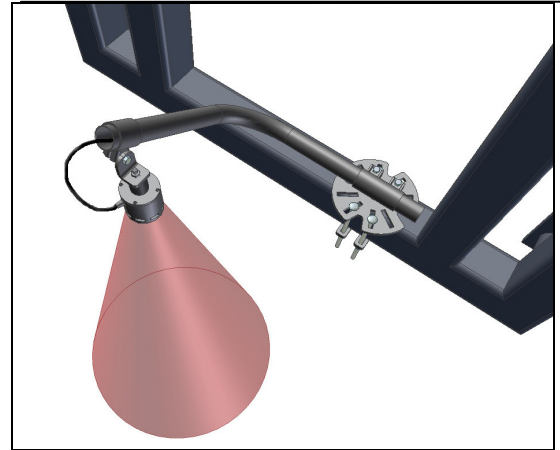
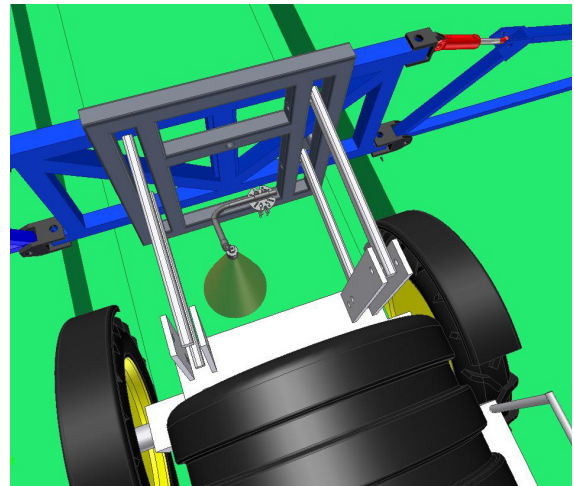

Figure 12 – Main Lift Sensor Bracket Mounting Position
Figure 13 – Main Lift Sensor Mounted in the Correct Location
2. The bracket can then be mounted to the lowest frame member on the center section of the sprayer. The bracket should be mounted so the sensor mounting collar is in approximately the center of the sprayer and ahead of the boom (Figure 12 and Figure 13).
3. Mount the sensor onto the sensor mounting collar (Figure 12).